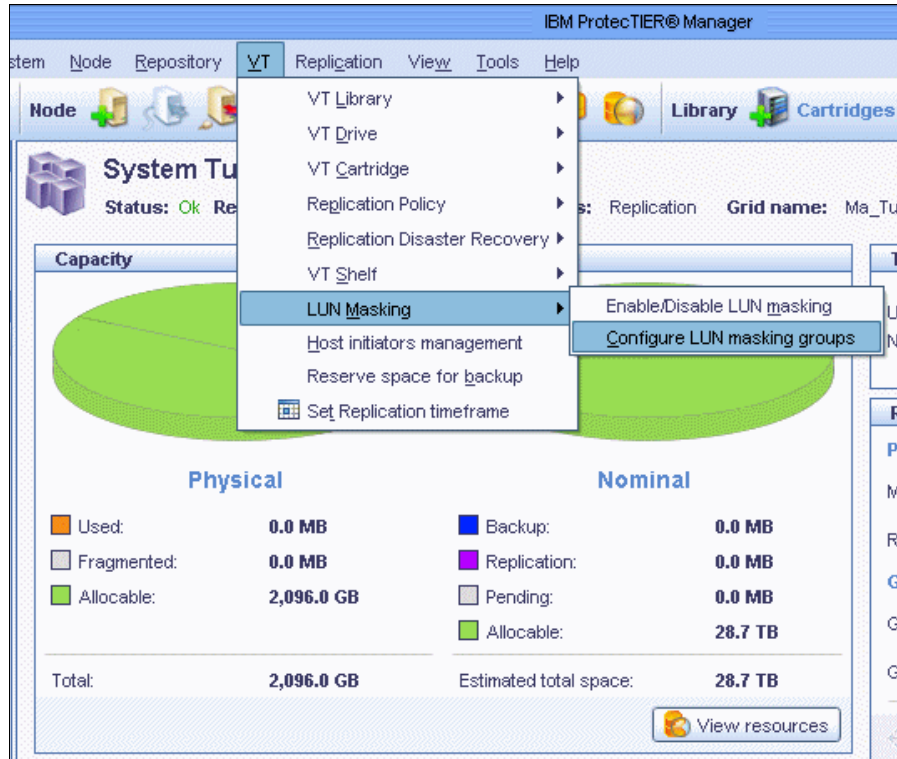

Figure 6-7 Select Configure LUN Masking groups
1. From the PT Manager GUI, click the VT drop-down menu, select **LUN Masking**, and select **Configure LUN Masking groups**, as shown in Figure 6-7.